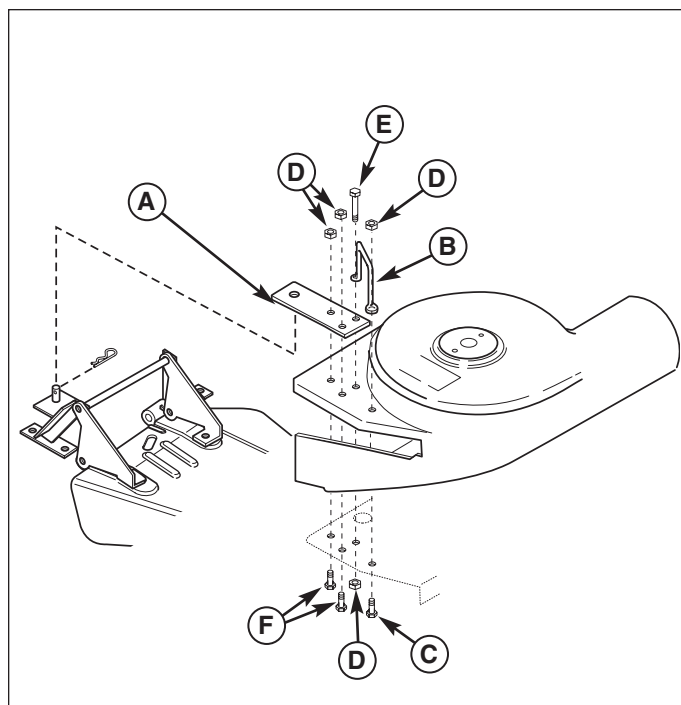

Figure 6. Assemble Turbo
1. Assemble the turbo. Install the bracket (A, Figure 6) and upstop (B) as follows:
NOTE: Upstop (B, Figure 6) has a short and a long leg. The difference is the thickness of bracket (A). Place long leg on housing and short leg on top of bracket. Washer(s) may need to be added under each leg of upstop if deflector contacts housing. See ADJUSTMENTS.
2. Install 1/4-20 x 7/8 capscrew (C) from inside turbo housing. Place upstop (B) on capscrew and secure with 1/4-20 locknut (D).
3. Install 1/4-20 x 2-1/4" full thread capscrew (E) through upstop (B), bracket (A), and housing. Secure with 1/4-20 locknut. End of capscrew should touch bottom housing surface.
4. Install two 1/4-20 x 3/4 capscrews (F) to secure bracket to housing. Secure with 1/4-20 locknuts (F).